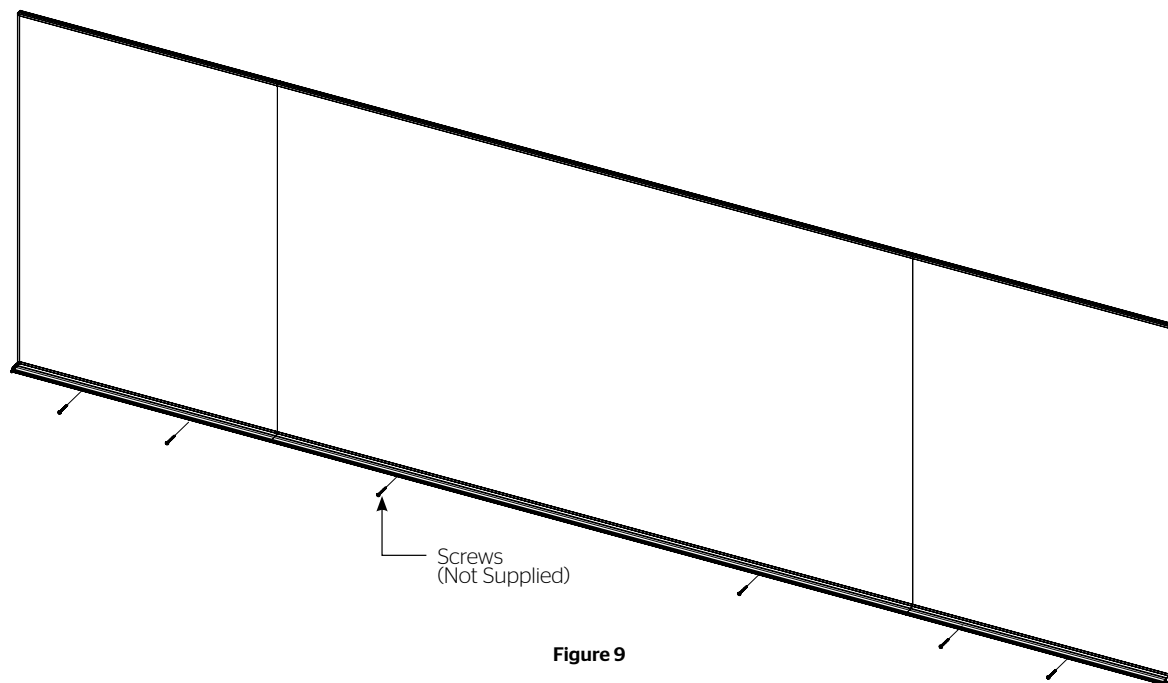

**Figure 8**
5. Secure the center panel tray section to the center panel with the provided #8 x ½" screws (Figure 8).